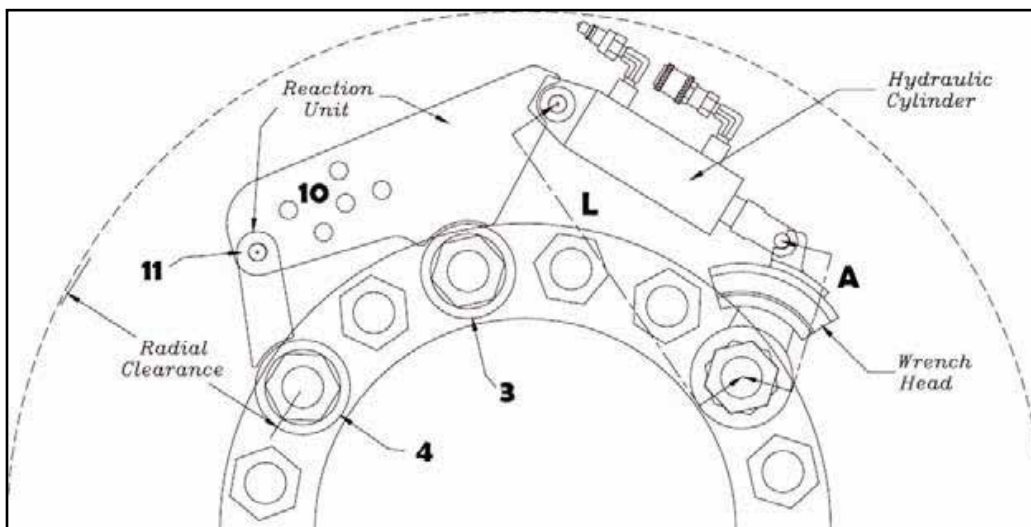

Figure 7
5. Measure the distance (A) of the wrench arm. This distance is 9" on a Series 250-9 (Figure 7).